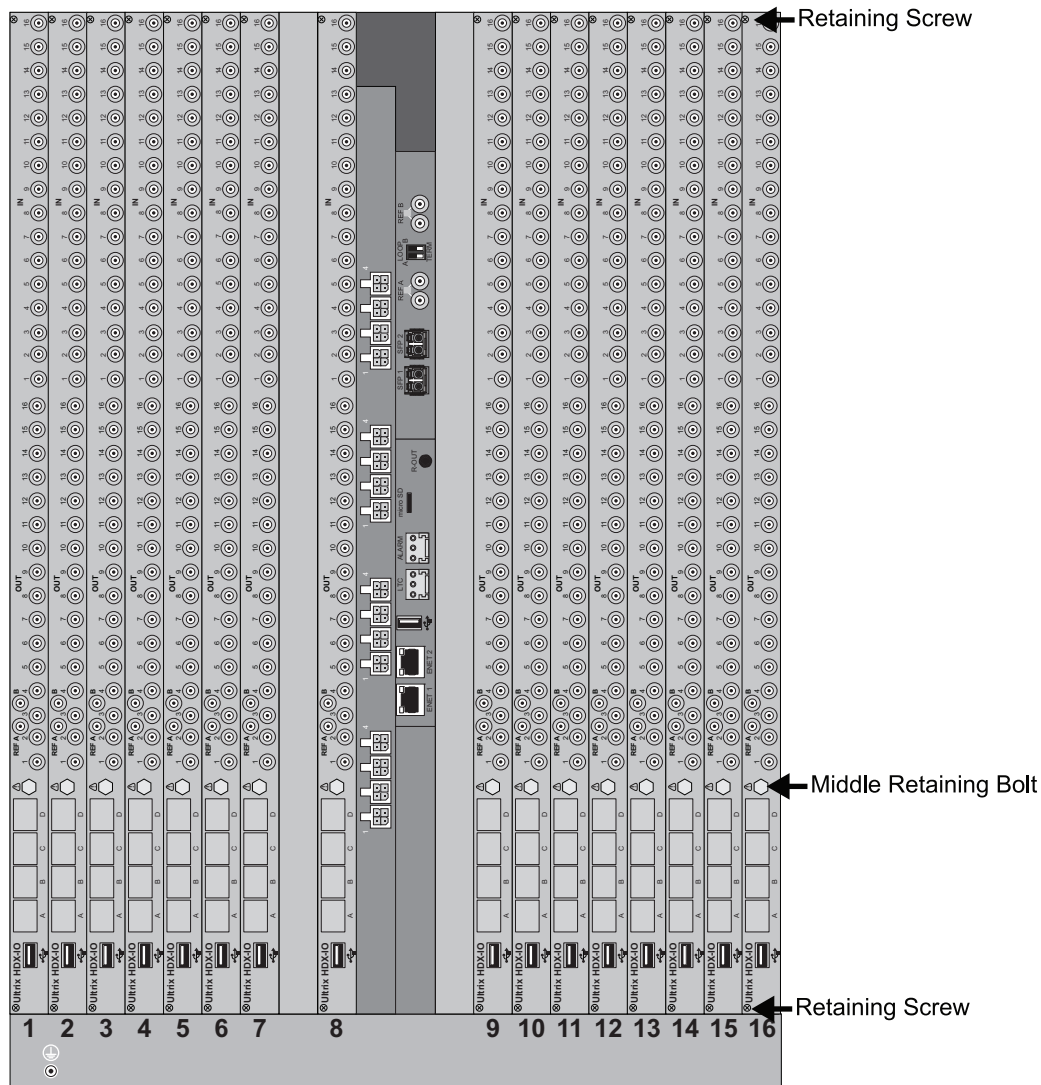

Figure 9 ULTRIX-FR12 Rear Panel — Location of Retaining Screws on an ULTRIX-HDX-IO Blade
3. Disengage the retaining screws on either end of the I/O Blade. Refer to **Figure 9**.
4. From the ULTRIX-FR12 rear panel, unfasten the Middle Retaining Bolt. Note that this bolt is not removable but it does extract the blade. Refer to **Figure 9** for the bolt location.